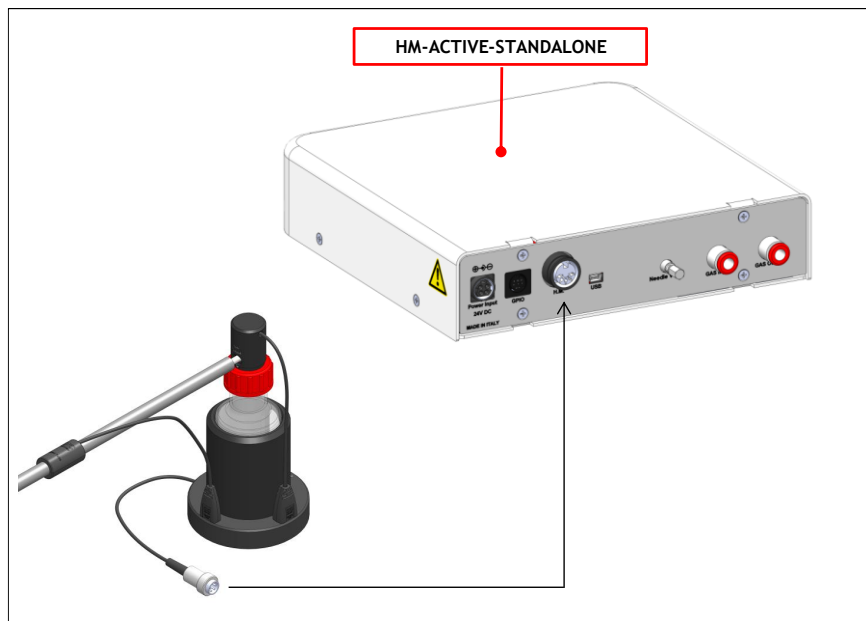

Figure 13. Humidity Module connection.
6. Connect the Heated Based to the port label “H.M.” on the rear panel of HM-ACTIVE-STANDALONE (see Figure 13).